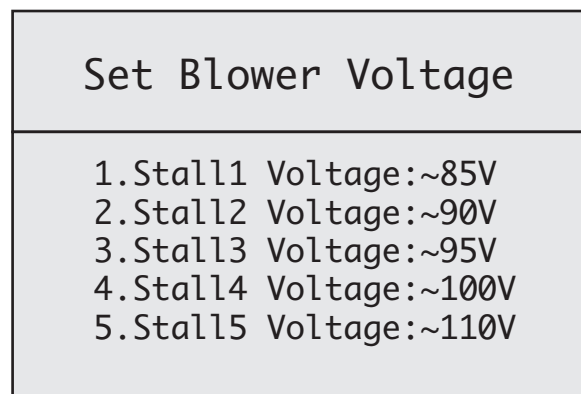

Figure 26
2. Using the **SCROLL DOWN** key, move down to option 4: "**SET BLOWER VOLTAGE**". Press **ENTER** again to move into the "**SET BLOWER VOLTAGE**" screen. **SEE FIGURE 26.**
- NOTE: Voltage can be decreased or increased only in increments of five (5).**